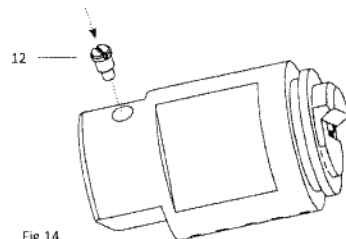

Fig 14.
Rotate plug until locking. Tighten stopper screw (12) to cylinder body (Fig 14). Check for proper operation of the cylinder.